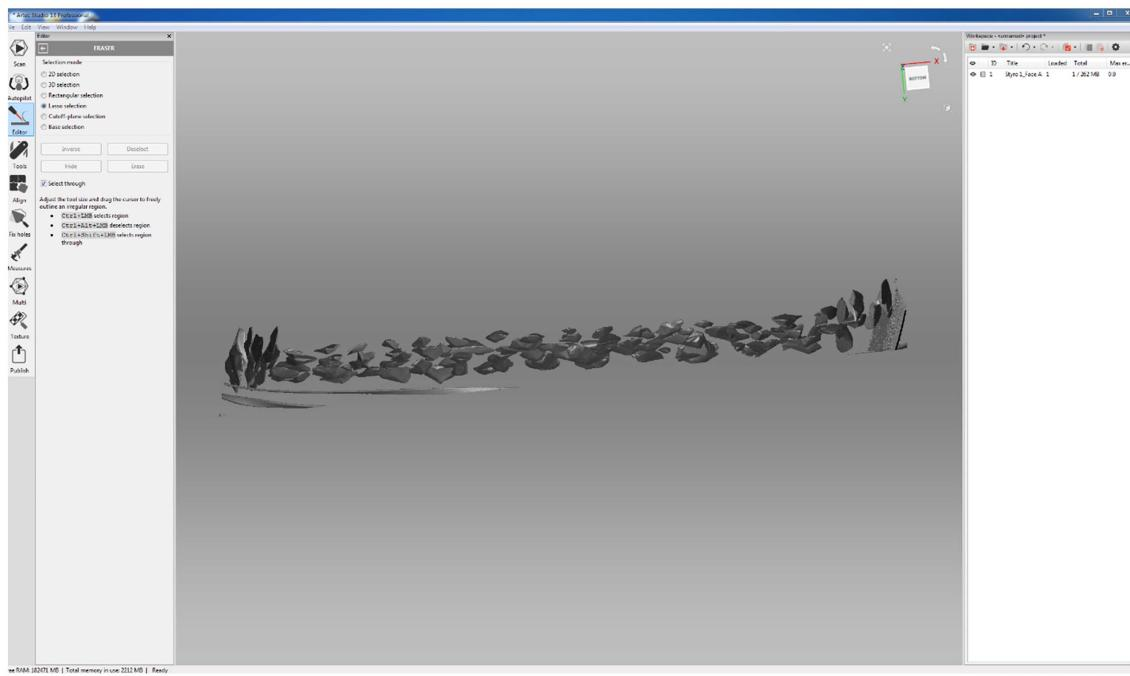

Fig. 25: Remaining Face A after the deletion of Face B.
28.6 Click 'Erase' in the Eraser Panel or press the 'Delete' key to delete the selected area (Fig. 25).